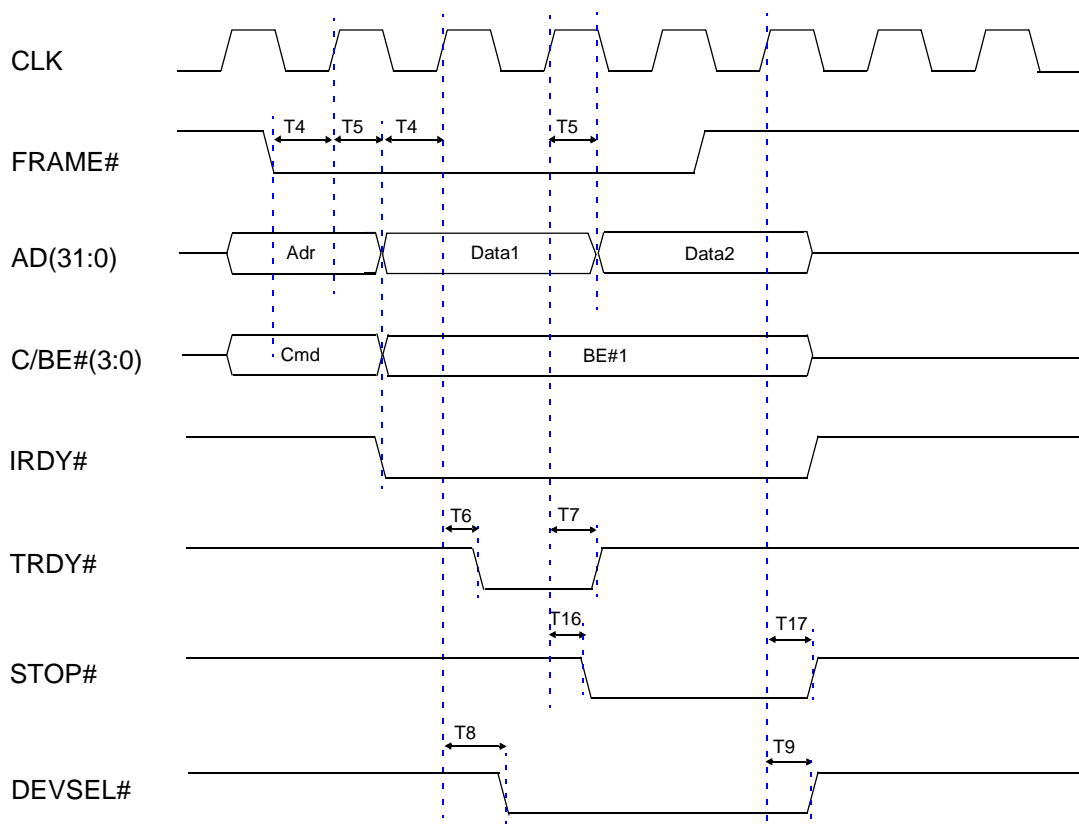

Figure 5-2. Disconnect On Burst Cycle - PCI Bus
- Disconnect On Burst Cycle Timing, see Figure 5-2.